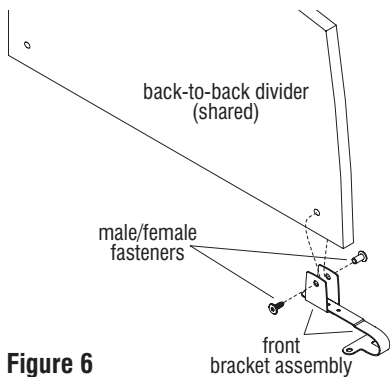

Figure 6
3. Next, install the front bracket assembly to the divider which will be shared and installed back-to-back. Secure the bracket to the divider using a set of male and female fasteners as illustrated (Figure 6).